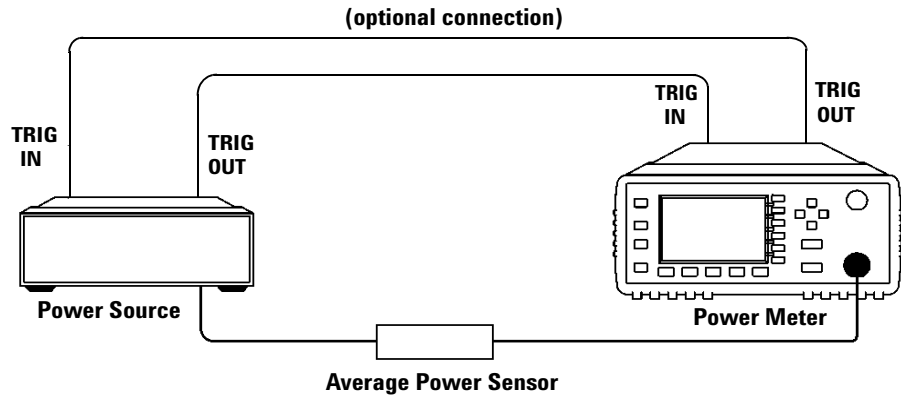

Figure 2-19 TRIG IN and TRIG OUT connection diagram between power meter and power source
These modes are used to eliminate the need for lengthy test routines, while increasing measurement throughput by reducing overhead of communication with the controller. The sweep feature allows you to make power measurement by quickly stepping through a series of frequencies or power levels. Configuration shown in Figure 2-19 illustrates the triggering connection required to synchronize power meter measurement to the power source settings.
- 2 Connect power meter **TRIG OUT** to power source **TRIG IN** using a BNC cable. The same connection is applied for power source **TRIG OUT** to power meter **TRIG IN**. See Figure 2-19.